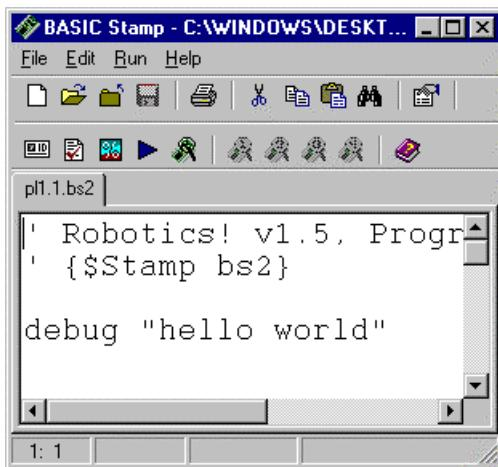

Figure 1.24: (a) Stamp Editor
- Type Program Listing 1.1 into the Stamp Editor as shown in Figure 1.24 (a).
- Click Run and select Run. Debug Terminal #1 should appear in a second window, as shown in Figure 1.24 (b).